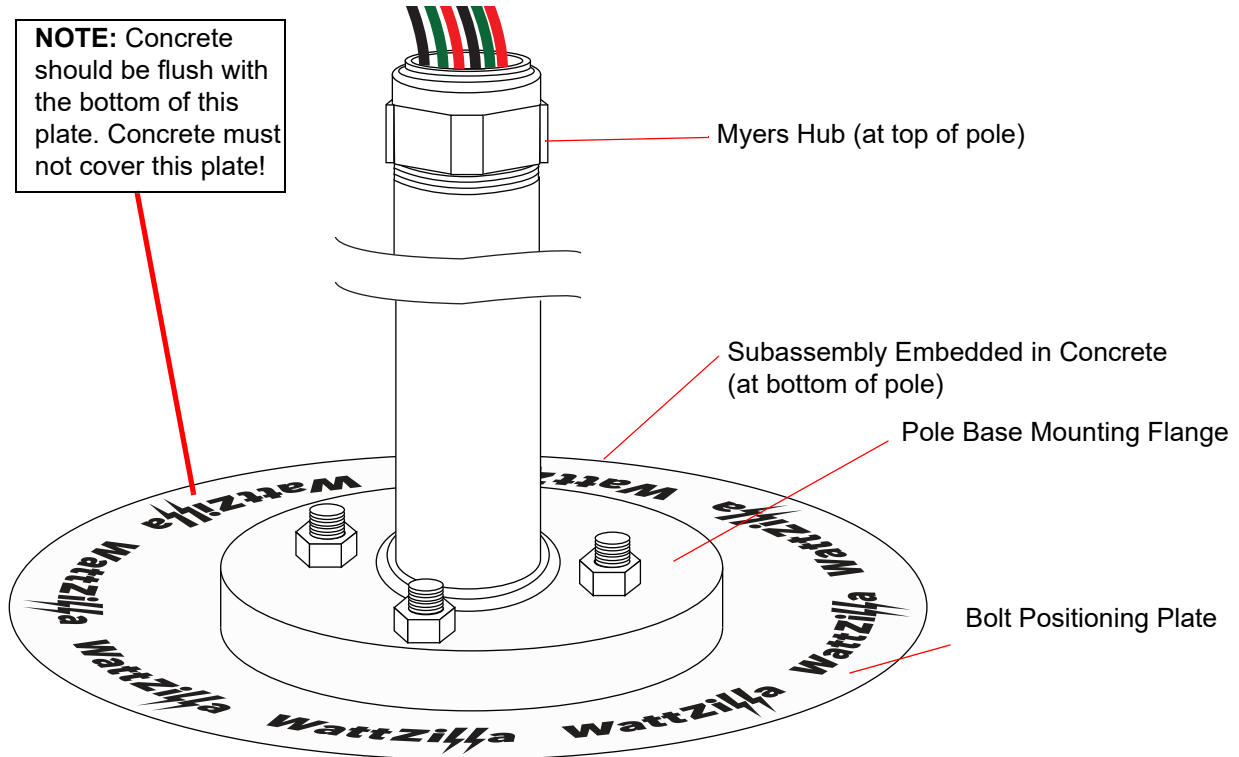

Figure 10. Attaching the Pole to the Base Subassembly
11. Place the threaded end of the pole (bottom of the pole) into the flange that is located at the top of the base subassembly that is embedded in concrete (Figure 10). Then wrap a piece of protective cloth or tape around the nut on the Myers hub (located at the top of the pole), and place the open end of a wrench over the covered nut. Carefully turn the nut clockwise to securely attach the pole to the flange. Be careful not to strip the threads when attaching the pole to the flange.